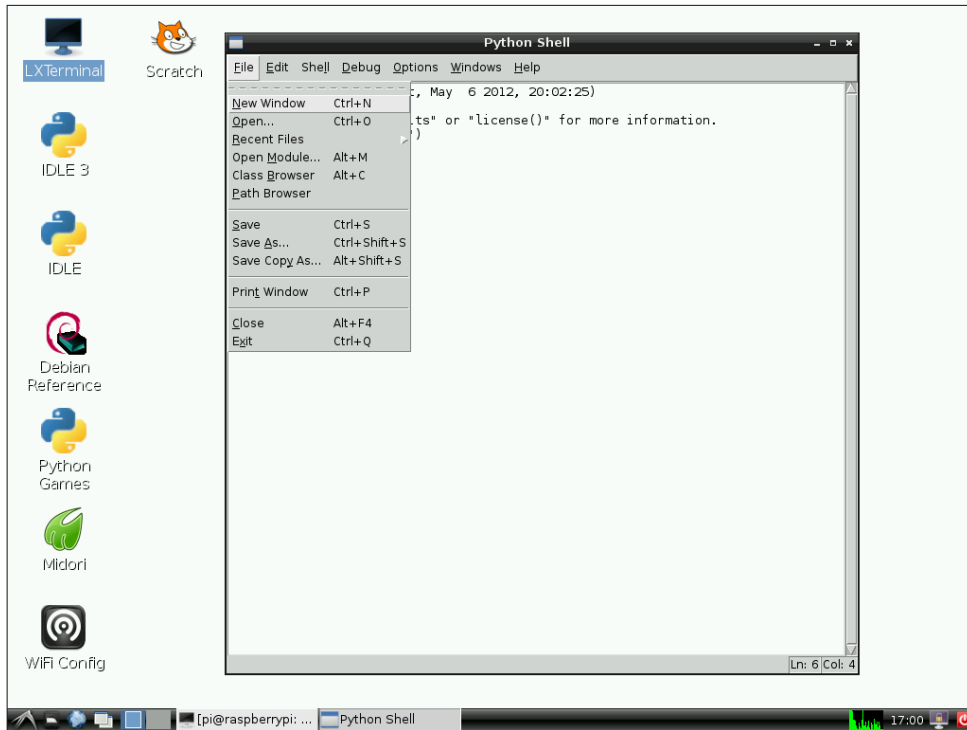

FIGURE 2-3:
1. Create a blank file for your program by selecting New Window from the File menu, as shown in Figure 2-3.